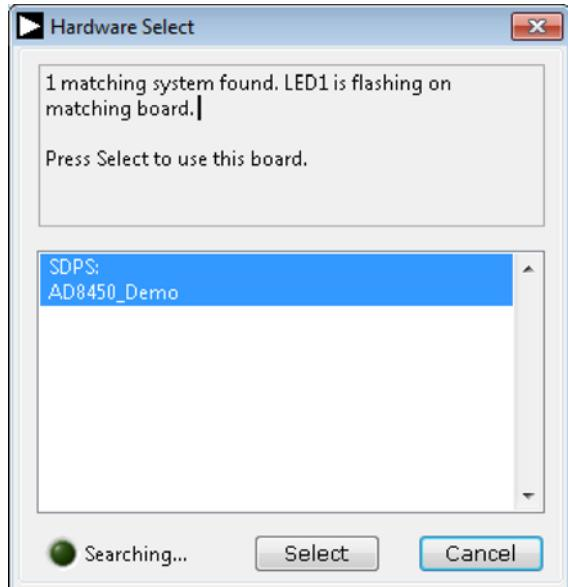

Figure 13. Software Detects Evaluation Board
3. When the evaluation board is detected, the message in Figure 13 displays. Click Select to continue.